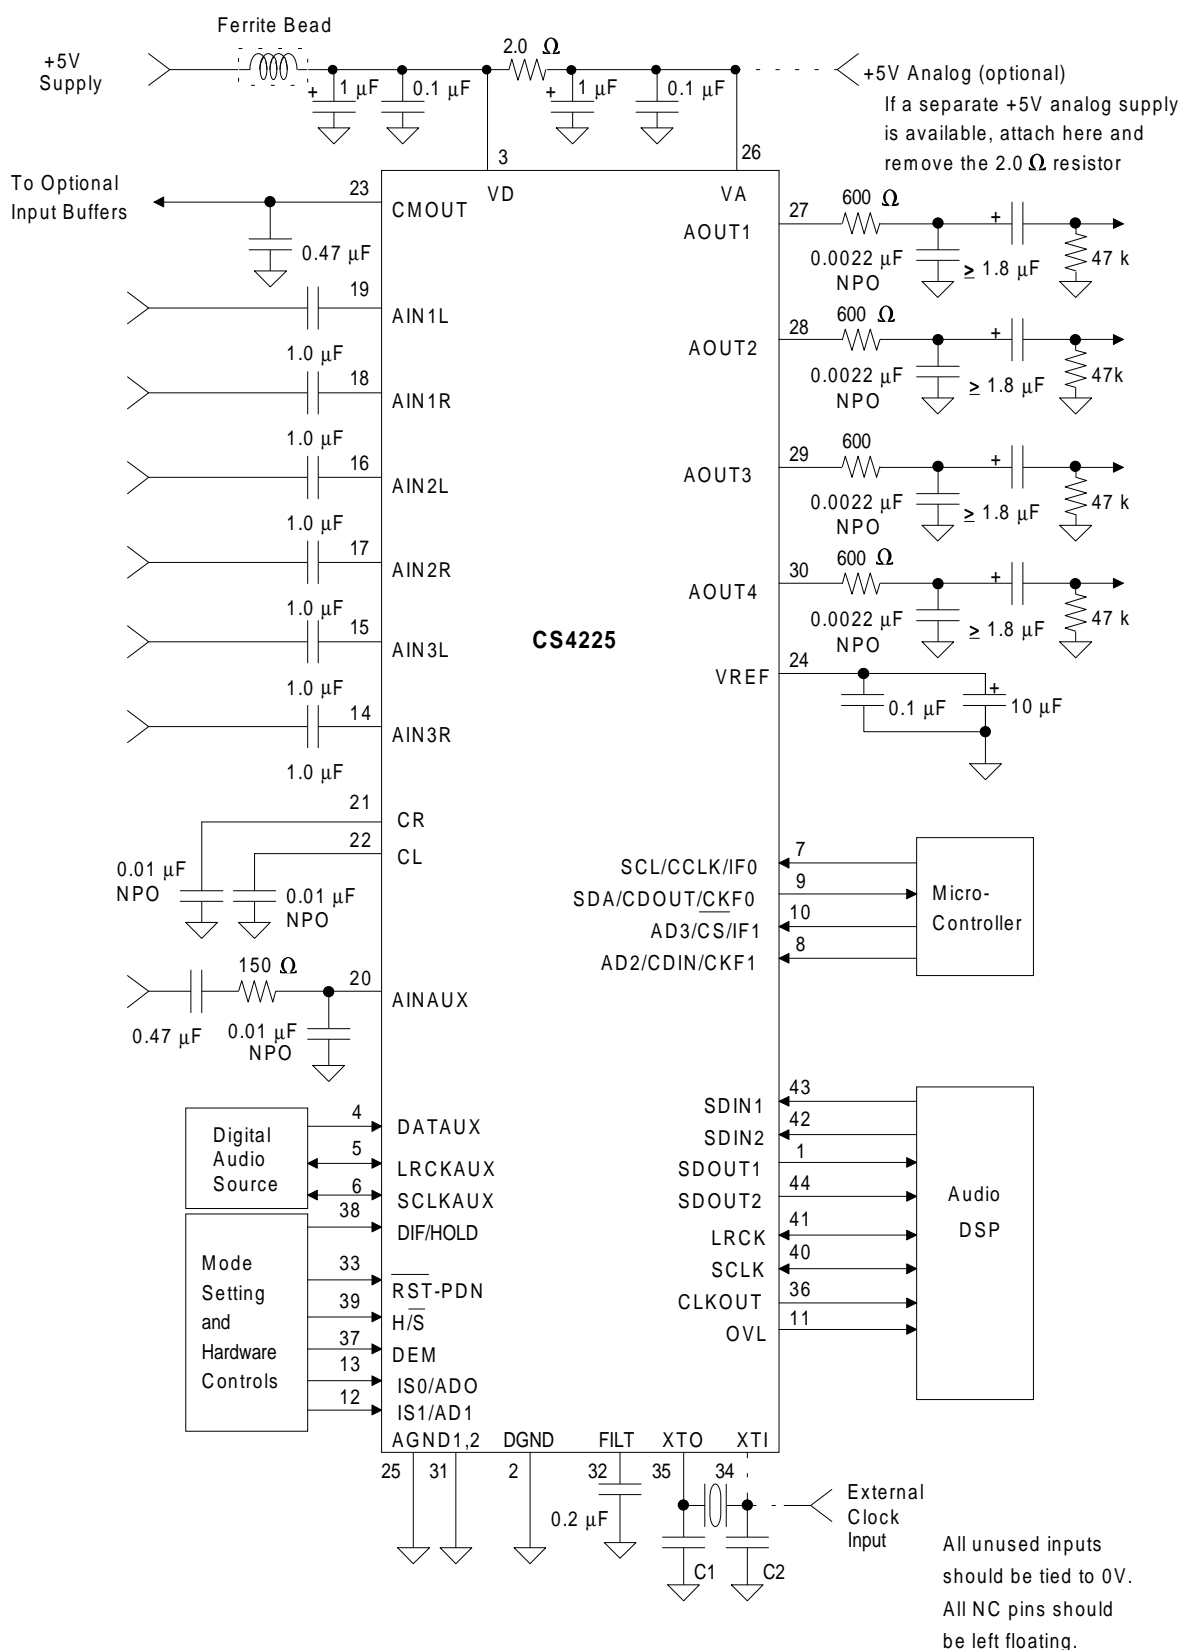
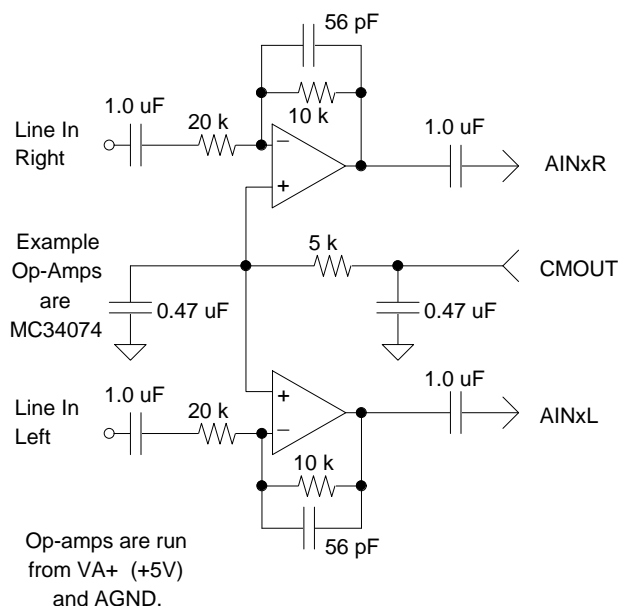

Figure 1 - Recommended Connection Diagram
Figure 2 - Optional Line Input Buffer
Digital audio data for the DACs and from the ADCs is communicated over a serial port. Separate pins for input and output data are provided, allowing concurrent writing to and reading from the device. Control for the functions available on the CS4225 are communicated over a serial microcontroller style interface, or may be set via dedicated mode pins. Figure 1 shows the recommended connection diagram for the CS4225.
AIN1R, AIN1L, AIN2R, AIN2L, AIN3R, AIN3L and AINAUX are the line level input pins (See Figure 1). These pins are internally biased to the CMOUT voltage (nominally 2.1V). A 1 μ F DC blocking capacitor allows signals centered around 0V to be input. Figure 2 shows an optional dual op amp buffer which combines level shifting with a gain of 0.5 to attenuate the standard line level of 2V_{rms} to 1V_{rms}. The CMOUT reference level is used to bias the op amps to approximately one half the supply voltage.
The analog signal is input to the 12-bit ADC via the AINAUX pin. An antialiasing filter of 150 Ω with 0.01 μ F to ground is required (See Figure 1) along with a series DC blocking capacitor. The AINAUX signal is normally routed to the 12-bit ADC. This signal may also be routed to the Left 16-bit ADC (replacing the selected left input), under control of the AIM bit in the 12-bit ADC Mode Byte. In this mode, the input antialiasing filters and gain adjustment operates on the AINAUX signal.
AOUT1, AOUT2, AOUT3 and AOUT4 output a $1V_{rms}$ level for full scale, centered around +2.1V. Figure 1 shows the recommended $1.0\mu F$ dc blocking capacitor with a $40k\Omega$ resistor to ground. When driving impedances greater than $10k\Omega$, this provides a high pass corner of 20Hz. These outputs may be muted.
The CS4225 requires a high frequency (256 Fs) clock to run the internal logic. The Clock Source bits, CS0/1/2, in the Clock Mode Byte determine the source of the clock. A high frequency crystal can be attached to XTI and XTO, or a high frequency clock can be input into XTI. In both these cases, the internal PLL is disabled, with the VCO shut off. The externally supplied high frequency clock can be 256 Fs, 384 Fs or 512 Fs. The CI0/1 bits in the Clock Mode Byte must be set accordingly. When using the on-chip crystal oscillator, external loading capacitors are required (see Figure 1). High frequency crystals (> 8 MHz) should be parallel resonant, fundamental mode and designed for 20pF loading (equivalent to 40pF to ground on each leg). An example crystal supplier is CAL crystal (714) 991-1580.